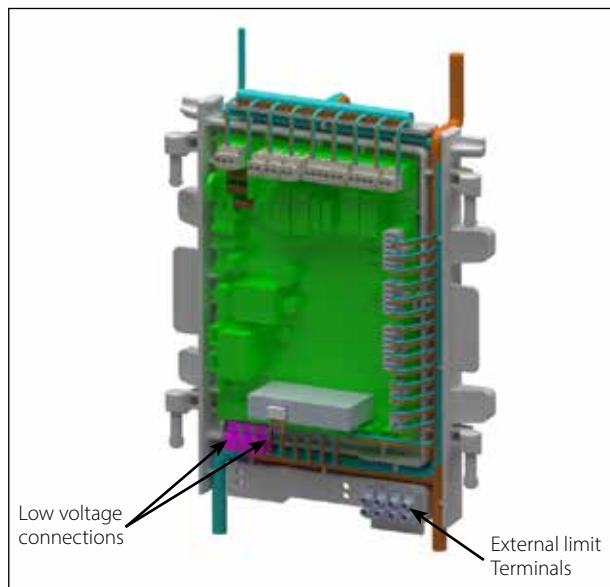

Fig. 33 - Low Voltage Connections
The low voltage terminals are located at the bottom of the CTRLMax control module. The line voltage terminals are located in the lower left corner as shown in Fig. 33 on the right.
1. Connect the DHW aquastat or temperature sensor wires to low voltage terminals X4-1&2 located at the bottom of the CTRLMax control module as shown in **Fig. 33**.
3. Connect the external limit wires to the Manual Reset Limit or Auto Reset Limit low voltage terminals located on the lower right corner of the CTRLMax control module housing as shown in *Fig. 33*.
1. Connect the system temperature sensor wires to low voltage terminals X5-3&4 located at the bottom of the CTRLMax control module as shown in *Fig. 33*.